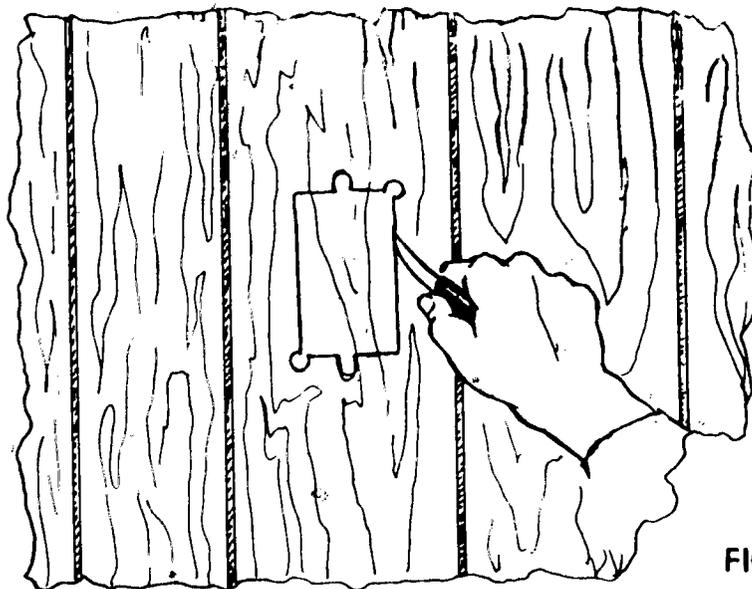

FIGURE 1
- F. Cut along penciled lines with knife (Figure 1)